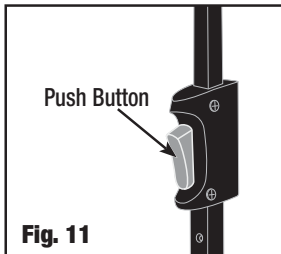

Fig. 11
- Lower the frame one post at a time by pressing the push button locks located on lower portion of posts (Fig. 11).